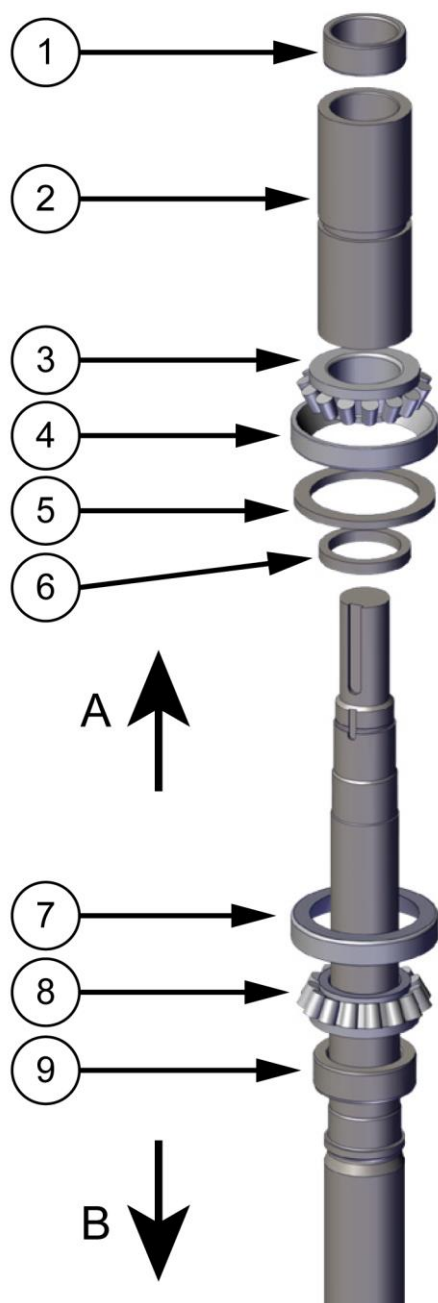

Figure 4. Fitting Shaft Sleeve Ejector, Lower Bearing, Bearing Sleeve and Upper Bearing Inner Ring to Shaft
Refer to Figure 4.
2. Check the SHAFT (075) for straightness and remove any burrs or sharp edges.
3. Check that the LABYRINTH LOCKNUT (065) fits the shaft thread, and also check that the BEARING SLEEVE (010) is a good sliding fit on the shaft.
4. Stand and support the shaft in a vertical position with the drive end at the top as shown in Figure 4. This can be done by threading the shaft into a stationary impeller which is fixed or held on a level surface. If the length of the shaft makes this impractical, the next assembly operations may be done with the shaft supported horizontally.
6. Oil or lightly grease the bore of the SHAFT SLEEVE EJECTOR (080), and place over the drive end of the shaft. Position the shaft sleeve ejector so it is tight against the shaft shoulder. The bore is toleranced so that it may have a slight interference fit over the shaft journal. A preheat (not to exceed 210°F (100 °C)) will ease installation. Once cool, use a pipe to position hard against the shaft shoulder.
7. Fit one cone of BEARING (005) with large diameter against shaft sleeve ejector. Because the bearing bore is an interference fit with the shaft journal, it is advisable to preheat the bearing inner rings or cones (preheat should not exceed 210°F (100 °C)). It is best to use an induction heater or oven to heat the bearings.